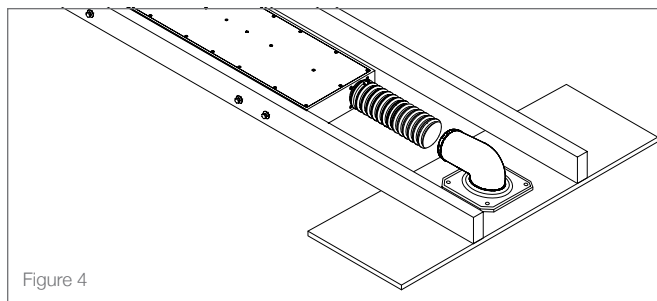

Figure 4
3. The BPS6 TL ships with a foam plug and tether inserted into the end of the port tube; **remove and discard**. Guide the port tube onto the 90 degree connector of the mounting platform so the tube is positioned snugly in place. Tighten the clamp ring to secure the port tube (see Figure 4).